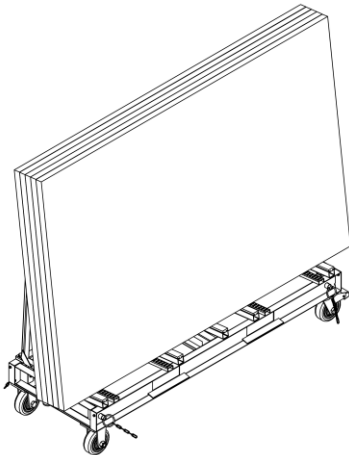

Figure 1.2
Step 2: Place the stone slabs on the A-frame (Figure 1.2).